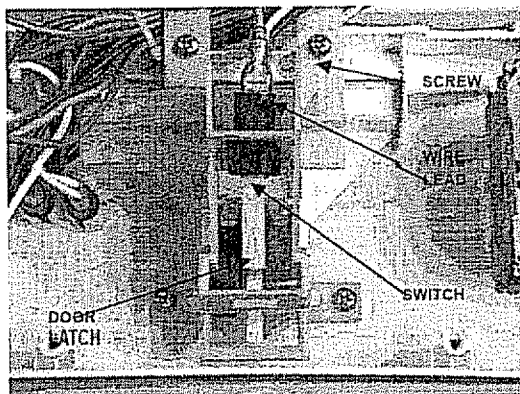

Figure 5
3. Remove wire leads from door latch and remove screws securing door latch assembly to inner door (See Figure 5 )